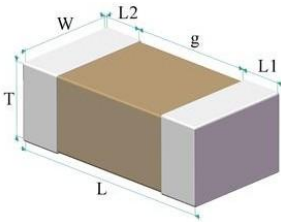

Fig.1: Structure & Dimension
| 2   | Size Code                                 | See Fig.1 and ② Size Code                           | Measuring by gages which precision is not less than 0.01 mm.                                                                                                                                                                                                                                                                                                                                                                                                                                               |